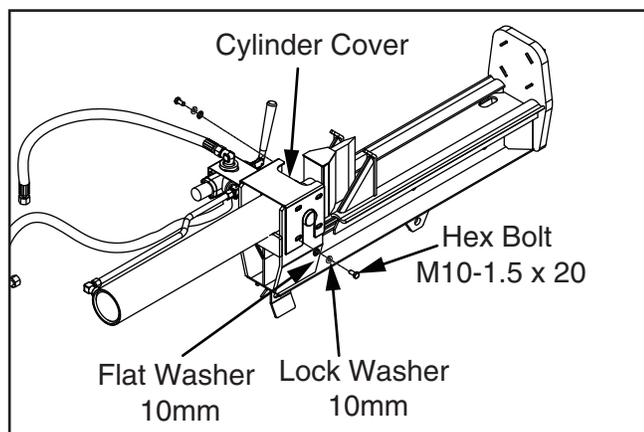

Figure 15. Hydraulic cylinder cover re-installed.
9. Re-install cylinder cover with (8) M10-1.5 x 20 hex bolts, (8) 10mm lock washers, and (8) 10mm flat washers that were removed in **Step 8** (see **Figure 15**).